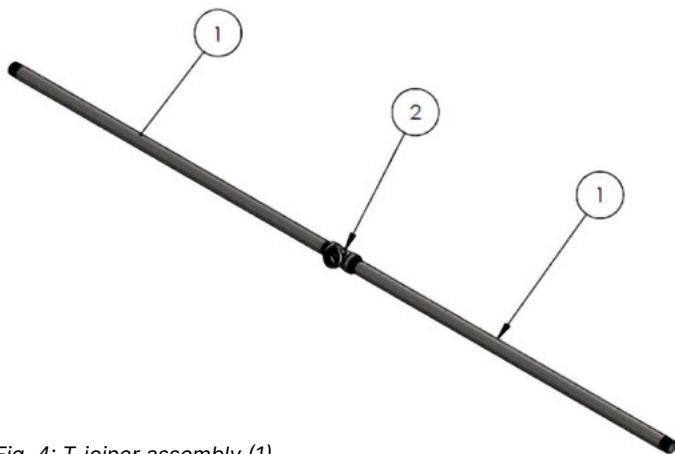

Fig. 4: T-jointer assembly (1)
- T-jointer assembly (1) (Fig. 4)